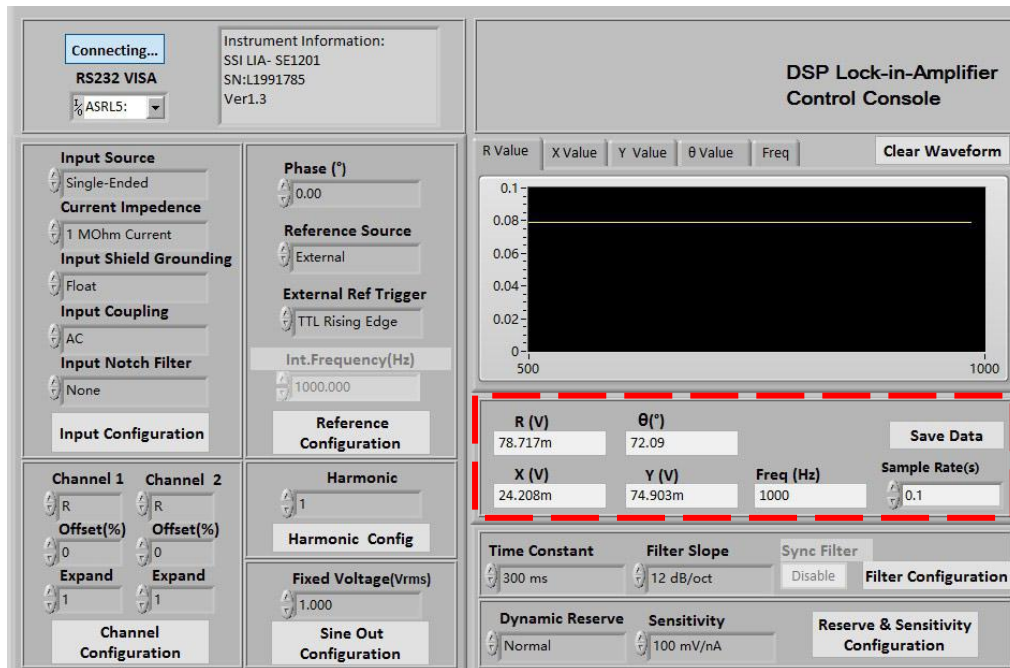

Fig.47 The Configuration Area of Data Storage
2. When the software is executing, click the button **Save Data** in the red box in Fig.47. After clicking this button and it displays **Saving...**. The software is saving the current collected data.